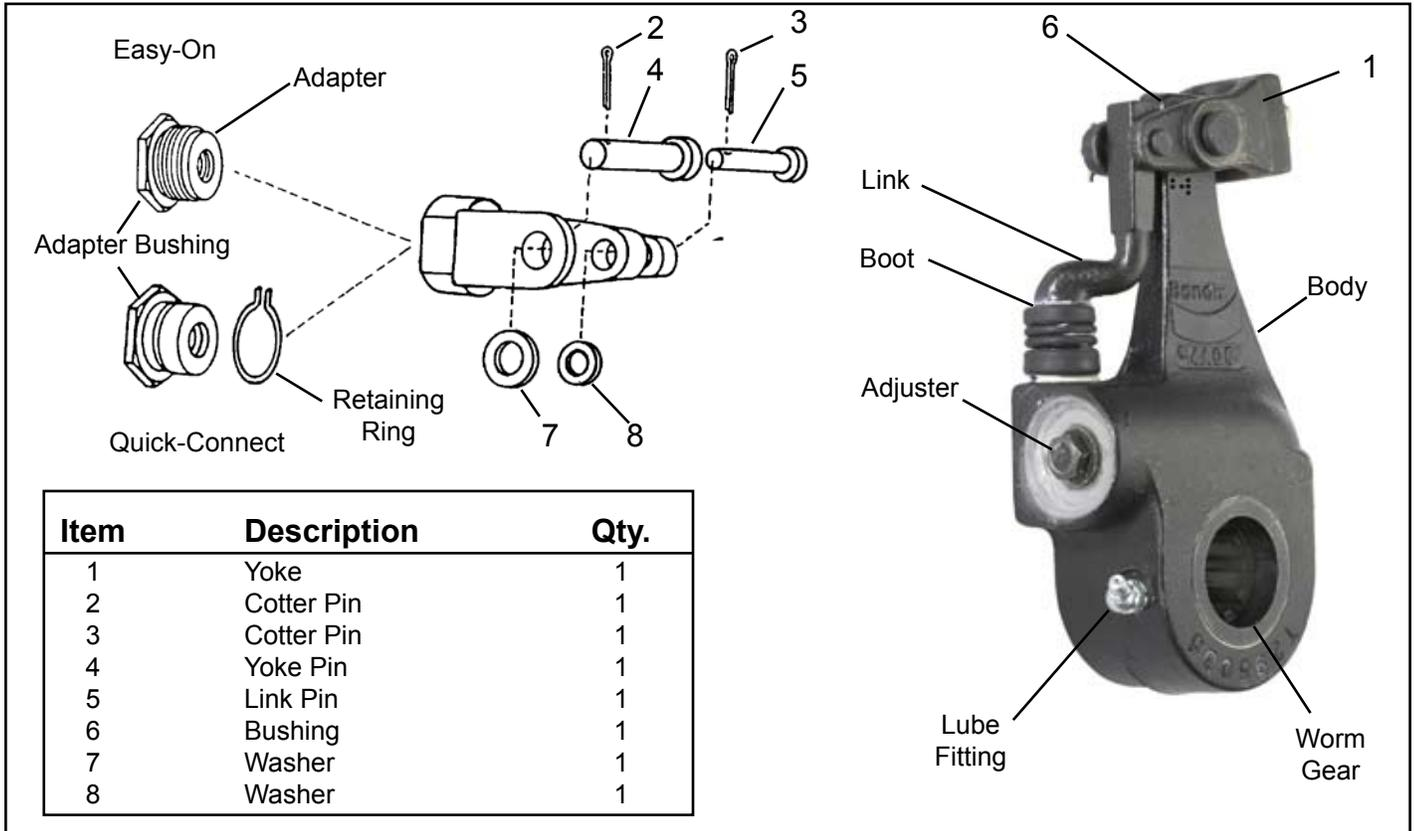
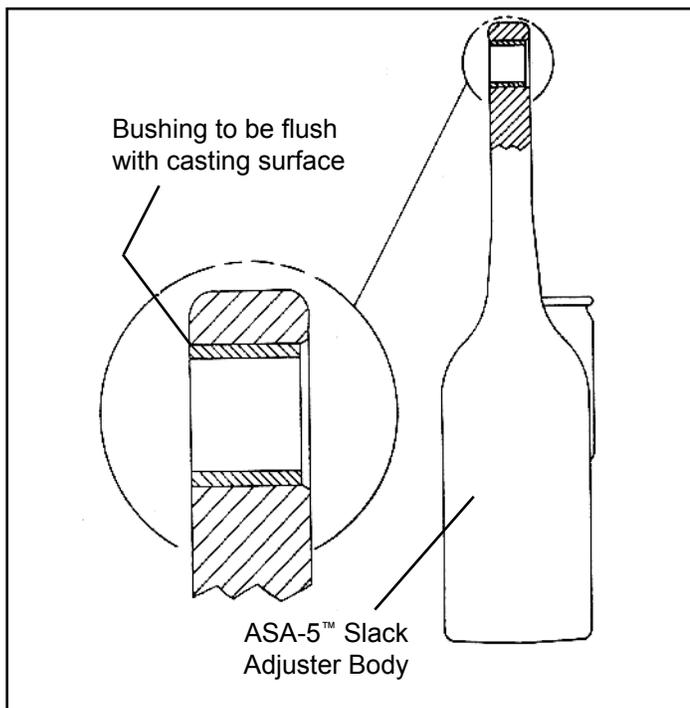

Figure 1 - ASA-5™ slack adjuster yoke kits
Figure 3 - *Bushing Installation*
1. If the ASA-5™ slack adjuster uses a yoke pin bushing (6), install it into the slack adjuster arm as shown in Figure 3. Depending on environmental conditions, an application of anti-seize compound to the yoke pin (4) and link pin (5) may facilitate later removal. Install the yoke and secure it to the ASA-5™ slack adjuster body and link using the yoke pin (4) and link pin (5). **Note:** Install the pins from the direction shown in Figure 1. Install washers (7 & 8) and cotter pins (2 & 3) in the yoke pin and link pin, respectively, and secure each. Bend each leg of the cotter pins to a minimum of 25 degrees, creating an included angle of at least 50 degrees between the legs.